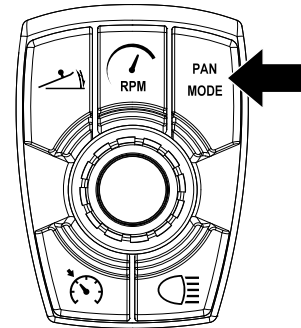

Figure 86. Panning Mode Button
1. Press and hold the **panning mode button** (Figure 86) for 3 seconds to activate panning mode. The trowel blades will be pitched flat and the pitch systems retracted to allow for the use of float pans.